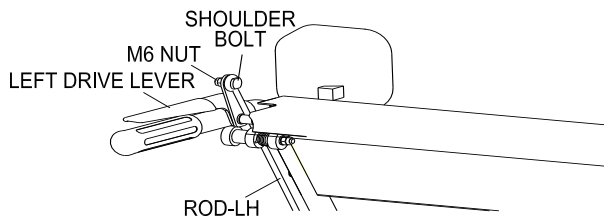

FIG 4
2.3.2 Assemble the upper side of Rod-LH onto the left drive lever by placing the shoulder bolt through the loop and tighten into place. Ref to (FIG 4).